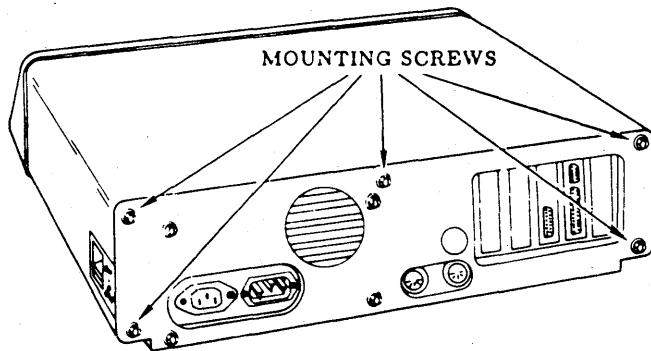

Figure 2: Cover Mounting Screws
2. Locate and remove the cover mounting screws as shown in Figure 2: